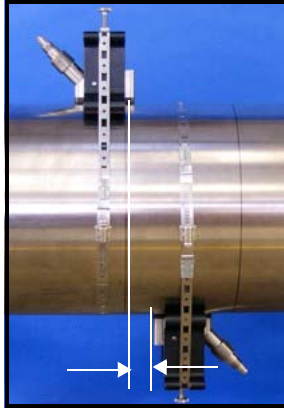

Figure 3-27: Distance Between Transducer Faces
2. Approximate the axial distance from one transducer face to the other transducer face, as shown in Figure 3-27 below.
3. Lay the first strip of dampening material flat. Cut a strip to a width equal to the distance between transducer faces (the distance illustrated in Figure 3-27 above).